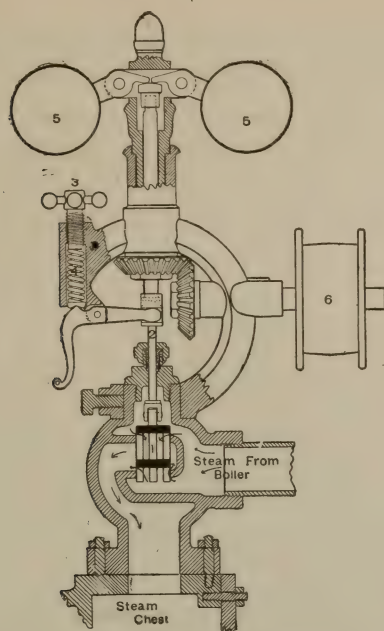

Fig. 11. Governor for Steam Engine.
Fig. 11 is a sectional illustration of a throttling Gardner governor, such as is in common use on stationary engines. The governor is usually placed upon the steam chest of the engine. Steam passes through the governor valve (1) in the direction indicated by the arrows. The valve in a governor is so constructed that steam pressure will have no effect upon its opening or closing. It will be noted that from the cut that the steam presses on the top of the valve as well as on the bottom, giving an equal pressure on both sides. The valve is raised or lowered in its seat, to allow more or less steam to pass through it, by the valve stem (2) which extends up near the top of the governor. The valve stem is held up and the valve opened by the spring (4) pressing down upon one end of the lever, the other end of the lever raising the valve and stem. The tension of the spring and the speed of the governor is regulated by the hand wheel (3). When the governor is at